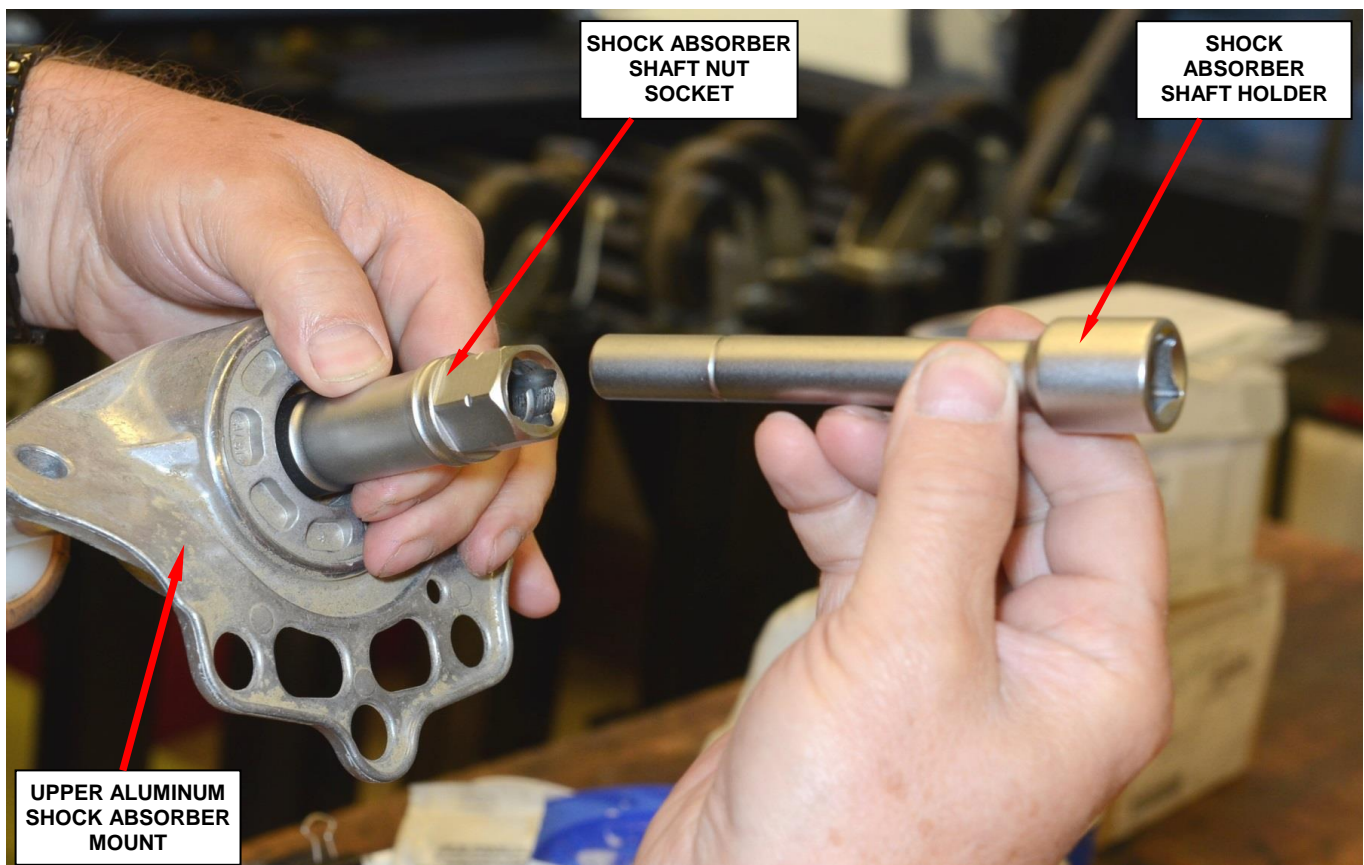

Figure 6 – Remove/Install Shock Absorber Shaft Nut
- b. Use tool **WTC-P37**, or equivalent, to hold the rear suspension shock absorber shaft from turning during retaining nut removal (Figure 6).
- c. Use tool **WTC-P37**, or equivalent, to remove retaining nut that holds the rear suspension shock absorber upper aluminum mount to the shock absorber shaft (Figure 6).